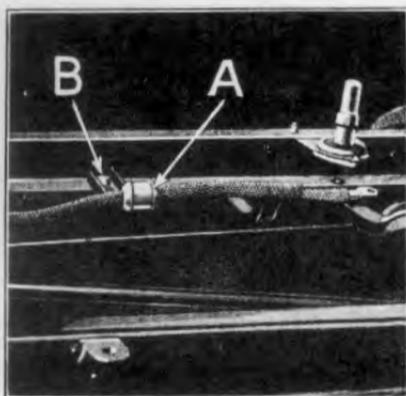
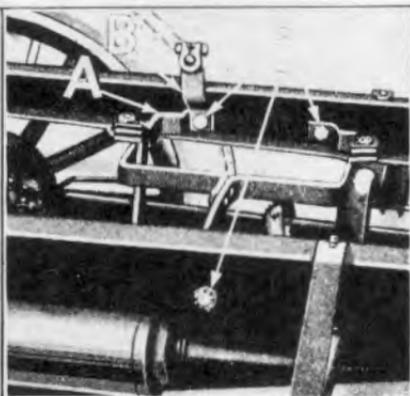

Fig. 45
Fig. 46
- (e) Withdraw battery to switch cable through cable support bushing (See "A" Fig. 45), remove battery to switch cable support by running out cable support bolt and nut "B". Remove battery box support (See "A" Fig. 46) and ground connector "B" by running out the three battery box support bolts and nuts "C", which hold connector and support to frame.